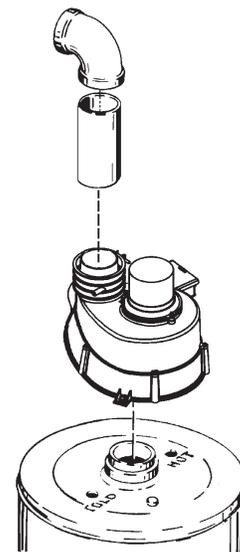

FIGURE 16. BLOWER ASSEMBLY
5. The blower discharge boot is made to accept only straight sections of 3" pipe. To start off with an elbow, a short section of the furnished pipe, a minimum of 2 inches, must be cut and glued into the end of the elbow that will mount on the discharge boot (see figure 16).